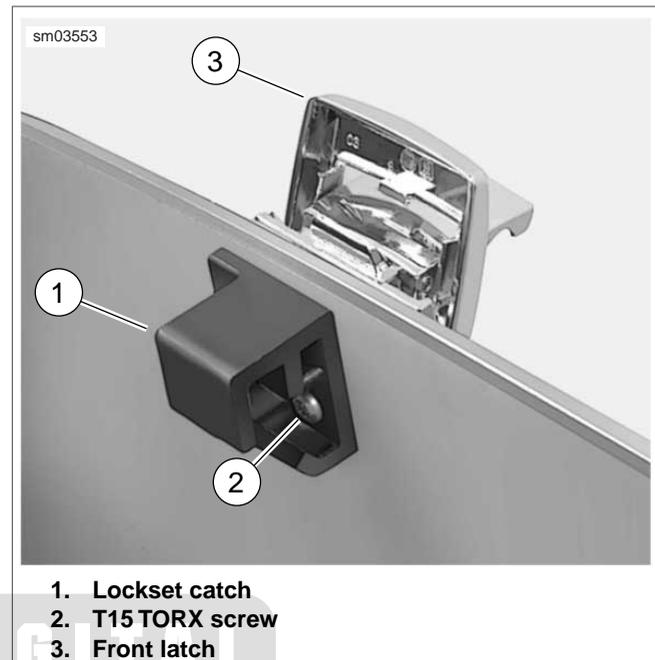

Figure 2-124. Front Latch Assembly
2. Remove two T15 TORX screws to release front latch, spacer and lockset catch from Tour-Pak. See Figure 2-124.
5. Slide two long T15 TORX screws through holes in lockset catch. From inside Tour-Pak, slide screws through front holes on right side of Tour-Pak. Properly oriented, flat side of lockset catch should be topside. See Figure 2-124.